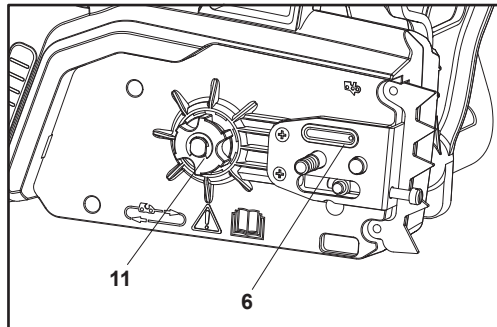

Fig. 36
1. Disassemble the guide bar (13) and saw chain (12) in reversed order from assembly.
2. Check the oiling port (6) for clogging and clean if necessary to ensure proper lubrication of the guide bar and saw chain during operation. Use a soft wire small enough to insert into the oil discharge hole (Fig. 36).